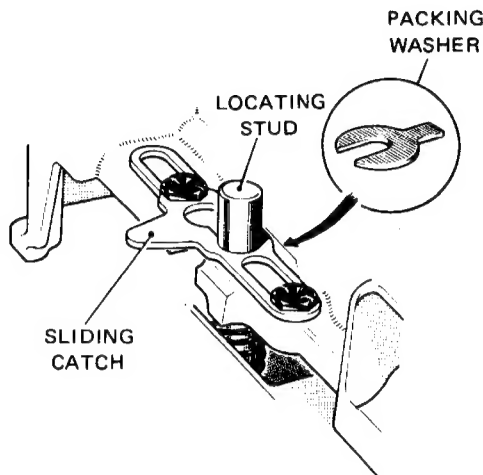

Fig. 2.3 MACHINE SECURING CATCHES
signal cords then release the sliding catches by pushing the right-hand one backwards and pulling the left-hand catch, Fig. 2.3 forward. The machine is now free and can be removed by gripping the lifting handles and lifting vertically upwards. If the sliding catches are difficult to move press down on the side frame adjacent to the sticking catch to relieve the pressure of the coil spring, which lies between the base casting and the tray.
- 2.17 Mount the machine on the base tray by lowering it on to the two locating studs, Fig. 2.3, projecting from the tray. Locate the slotted part on each side of the base casting, to rest on the coil spring around the pillars. Press down on the right-hand side frame to bring the horizontal groove in the pillar in line with the catch, and then pull the catch forward. Press down on the left-hand side frame to bring the horizontal groove in the pillar in line with the catch, and then push the catch backwards in order to lock.